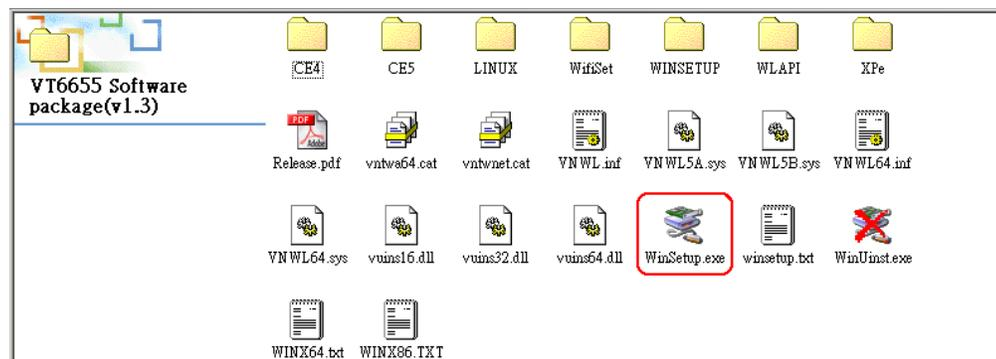

Figure 6-33: Locate the WinSetup Program Icon
Step 5: Locate the **WinSetup** program icon. See **Figure 6-33**.
- Step 6:** Double click the **WinSetup** program icon in **Figure 6-33**.